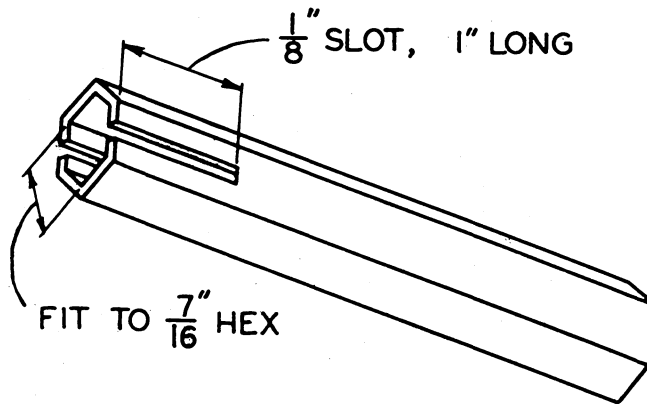

Fig. 9
- (d) Remove plunger housing nut and spring in center of bellows with special wrench. See Fig. 9. Care must be taken at this time not to twist or permanently distort the bellows.